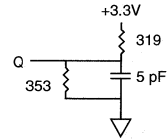

Fig. 2 OUTPUT LOAD EQUIVALENT
- t_{HZCE} , t_{HZOE} and t_{HZWE} are specified with $CL = 5pF$ as in Fig. 2. Transition is measured $\pm 200mV$ from steady state voltage.